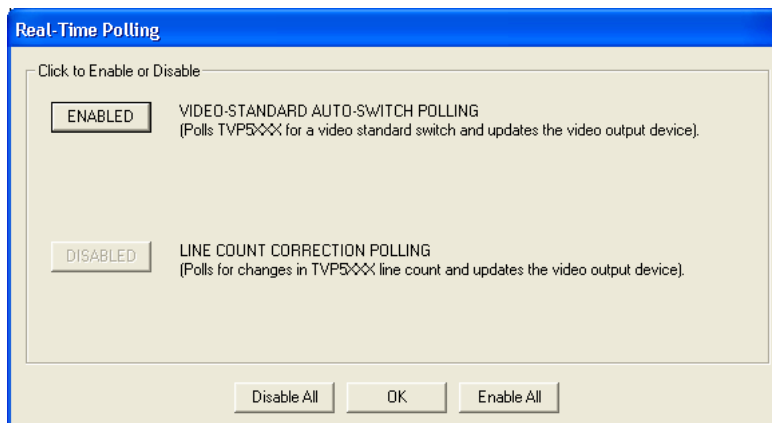

Figure 5. Real-Time Polling Dialog
4. If there are no I²C communication issues, the Real-Time Polling dialog window displays next as shown in Figure 5. If there are I²C issues, an I²C Test Report box displays. Completely exit out of WinVCC, double-check the parallel port cable connections, I²C address settings, cycle power on the TVP5154EVM, and re-run WinVCC.